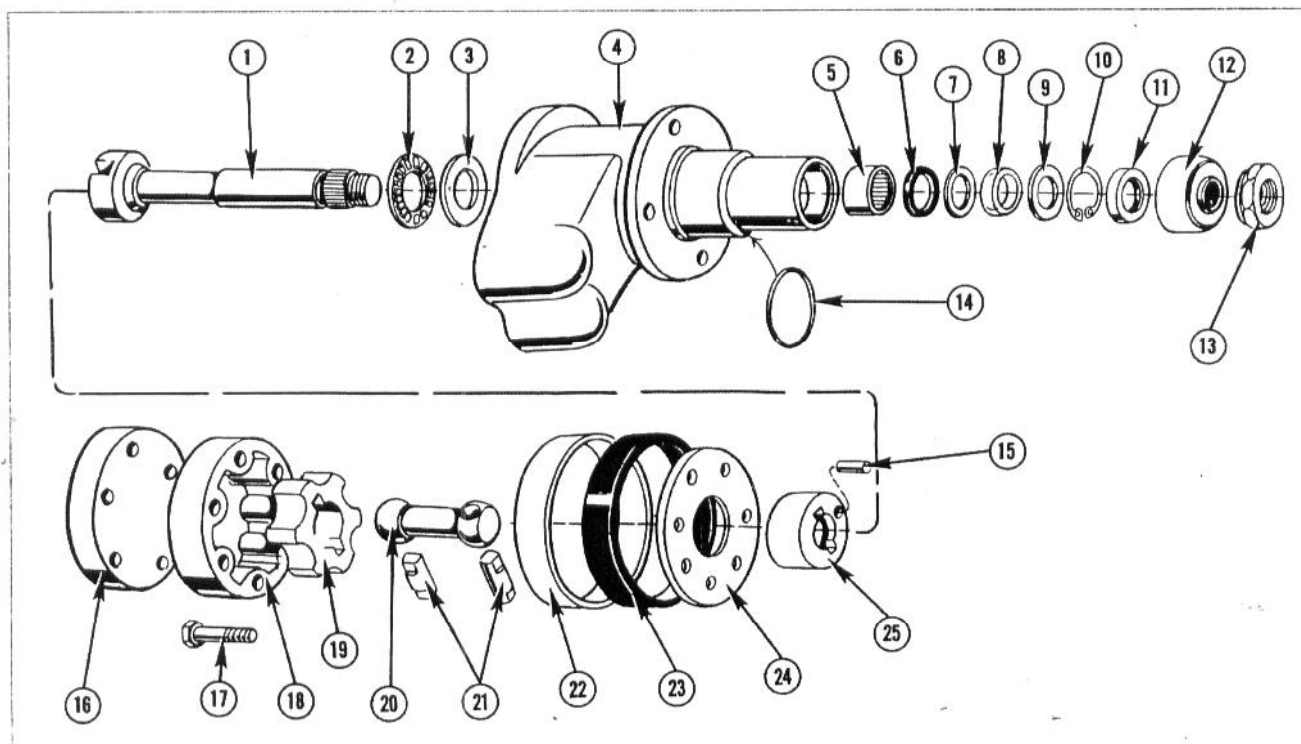

FIG. 11 — EXPLODED VIEW OF HYDROSTATIC HAND PUMP
DISASSEMBLY OF THE HAND PUMP (See Fig. 11)
4. Refer to Fig. 11 and remove the seven bolts, No. 17, from the top of the pump cover plate, No. 16.
INSPECTION OF THE HAND PUMP (See Fig. 11)
REASSEMBLY OF THE HAND PUMP (See Fig. 11)
16. Place new felt dust seal, No. 11, Fig. 11, over pump shaft and slide the seal downward into the pump body.
17. Slide the rubber water seal, No. 12, Fig. 11, over end of pump shaft and position around the shaft end of the pump body.
18. Rotate the protruding end of pump shaft by hand to check for freedom of movement and reinstall "O"-ring, No. 15, Fig. 11, around the shaft end of the pump.